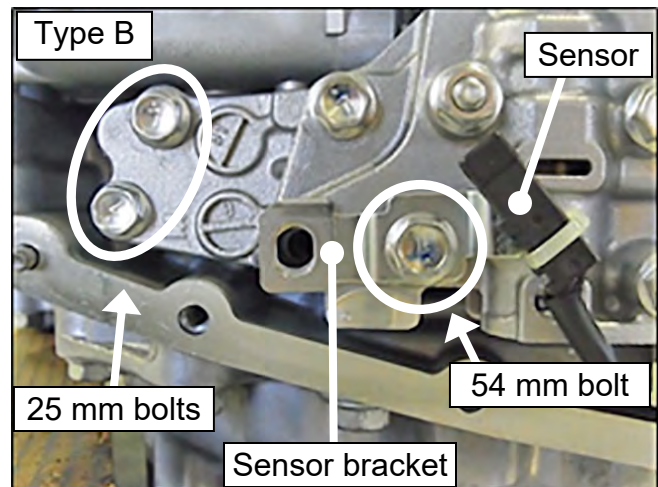

Figure 33
5. Type B only: Remove the two (2) 25 mm valve body mounting bolts, and then remove the 54 mm temperature sensor bracket bolt (see Figure 33).